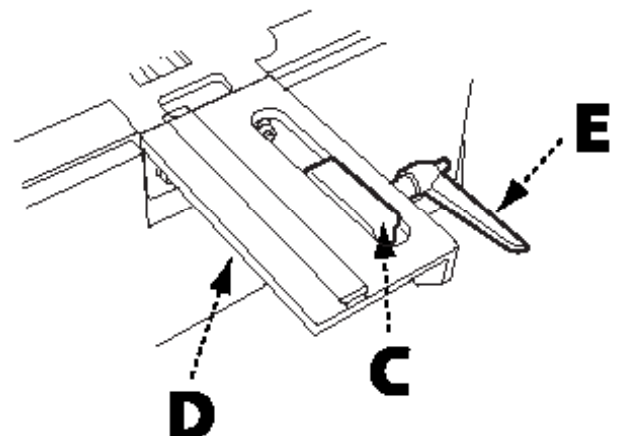

FIGURE 3
3. Attach the fence mounting plate (A) to the fence (B) using four M8 x 25mm socket head screws and 8mm lock washers. See Figure 3.